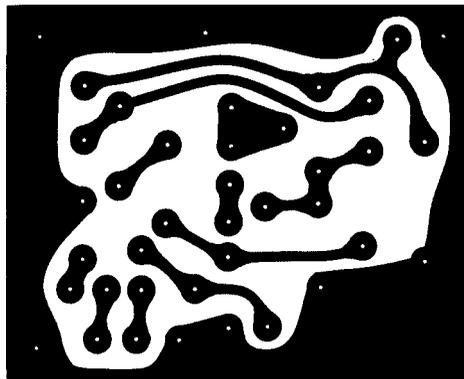

Figure 1 The toil pattern of the PCB – looking from the track side
1. PCB. The plain side is the *component side* and the soldered side is the *track side*. **Figure 1** shows the track side full size. Make the PCB from the pattern given in Figure 1. Otherwise, build the circuit on a matrix board.